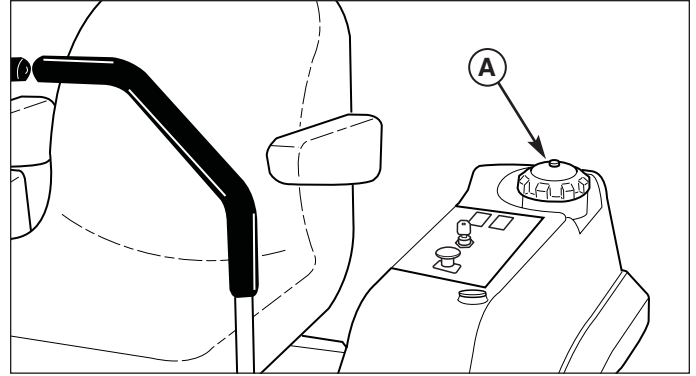

Figure 19. Adding Fuel
1. Remove the fuel cap (A, Figure 19).